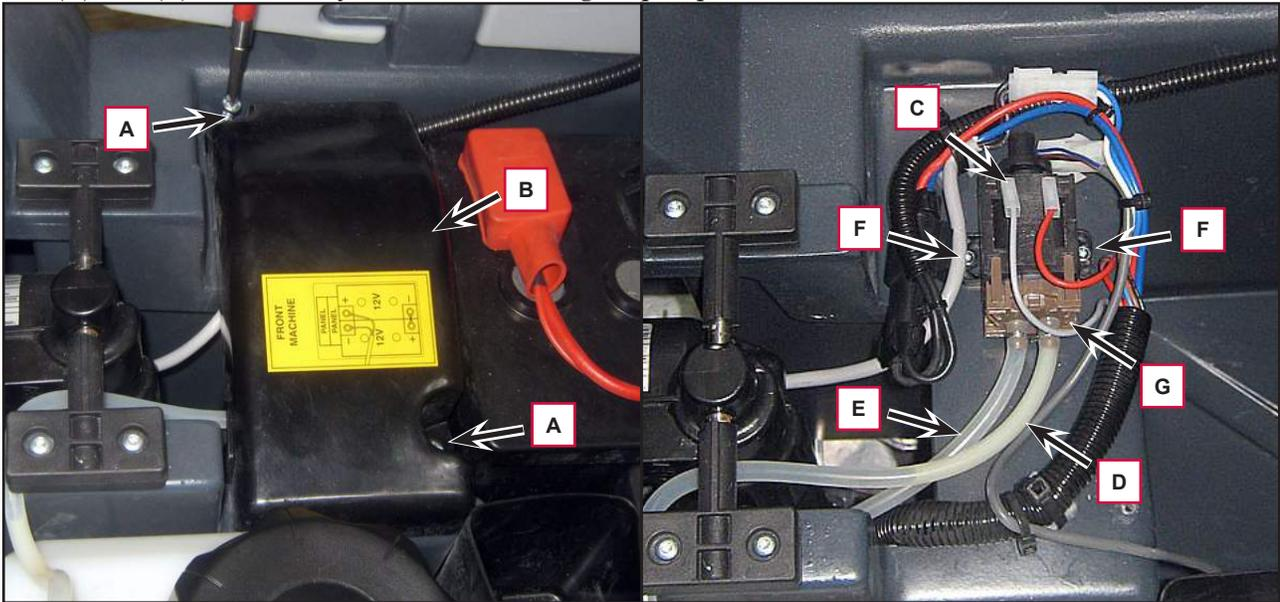

Figure 9
4. Unscrew the two screws (A) (Figure 9) and remove the cover (B).
5. Disconnect the connectors (C) and the tank hose (D) and brush hose (E).
6. Unscrew the two screws (F) and remove the detergent pump (G).